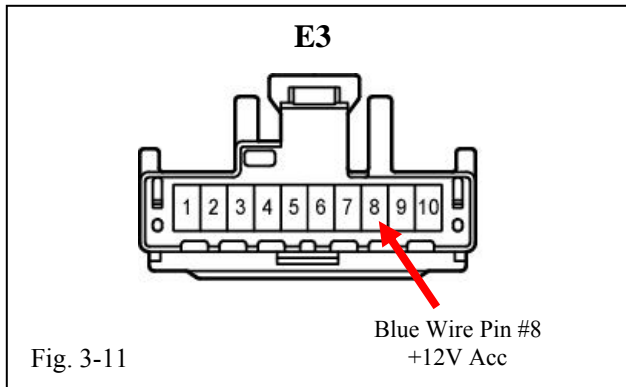

Fig. 3-11
- (j) Locate BLUE wire in pin #8. (Fig. 3-11)